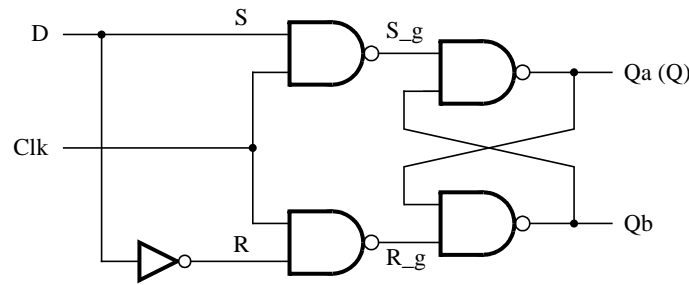
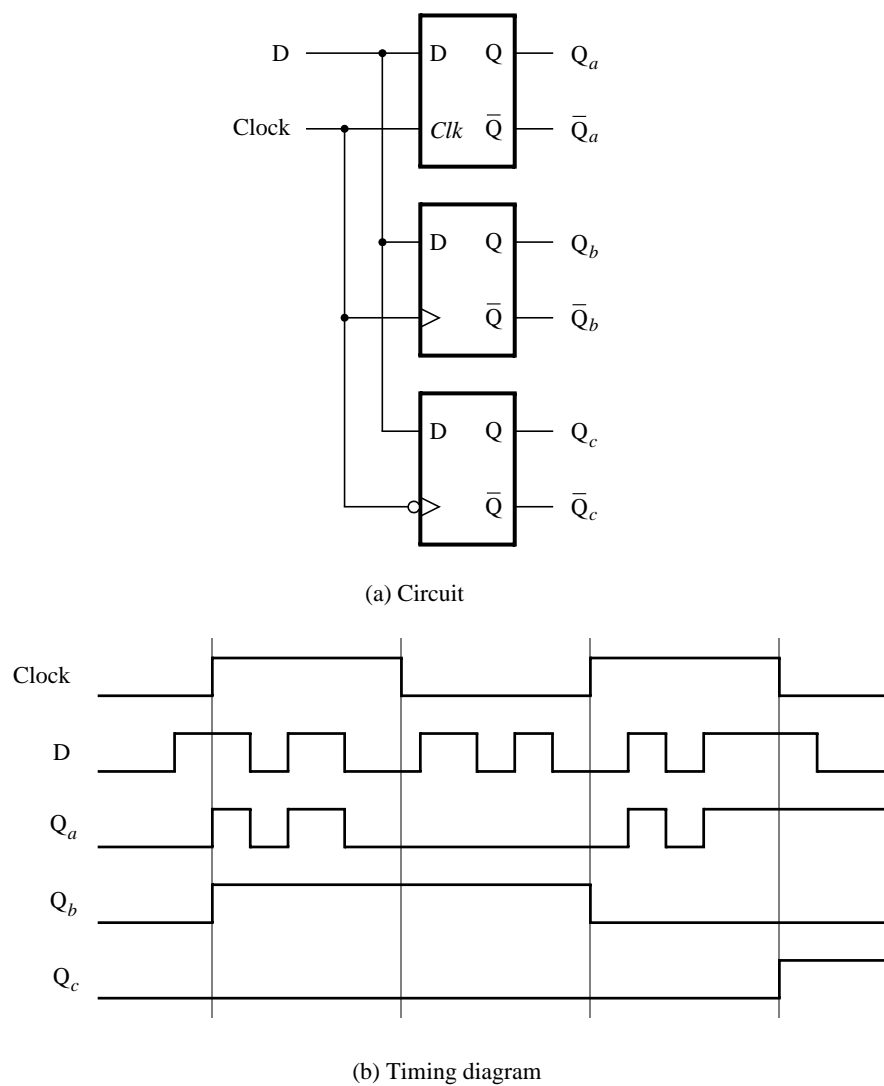

Figure 4. Circuit for a gated D latch.
Figure 6. Circuit and waveforms for Part IV.
Figure 4 shows the circuit for a gated D latch.
Figure 6 shows a circuit with three different storage elements: a gated D latch, a positive-edge triggered D flip-flop, and a negative-edge triggered D flip-flop.
2. Write a VHDL file that instantiates the three storage elements. For this part you should no longer use the *keep* directive (that is, the VHDL *ATTRIBUTE* statement) from Parts I to III. Figure 7 gives a behavioral style of VHDL code that specifies the gated D latch in Figure 4. This latch can be implemented in one 4-input lookup table. Use a similar style of code to specify the flip-flops in Figure 6.
4. Create a Vector Waveform File (.vwf) which specifies the inputs and outputs of the circuit. Draw the inputs *D* and *Clock* as indicated in Figure 6. Use functional simulation to obtain the three output signals. Observe the different behavior of the three storage elements.